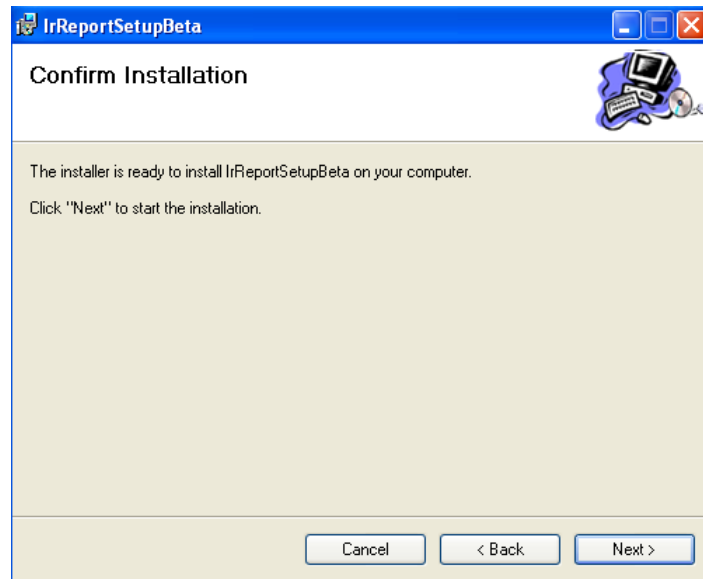

Fig.1.2.5
- Click the Next button to continue the installation or Back button to the previous step or Cancel button to terminate the installation (see Fig. 1.2.5);